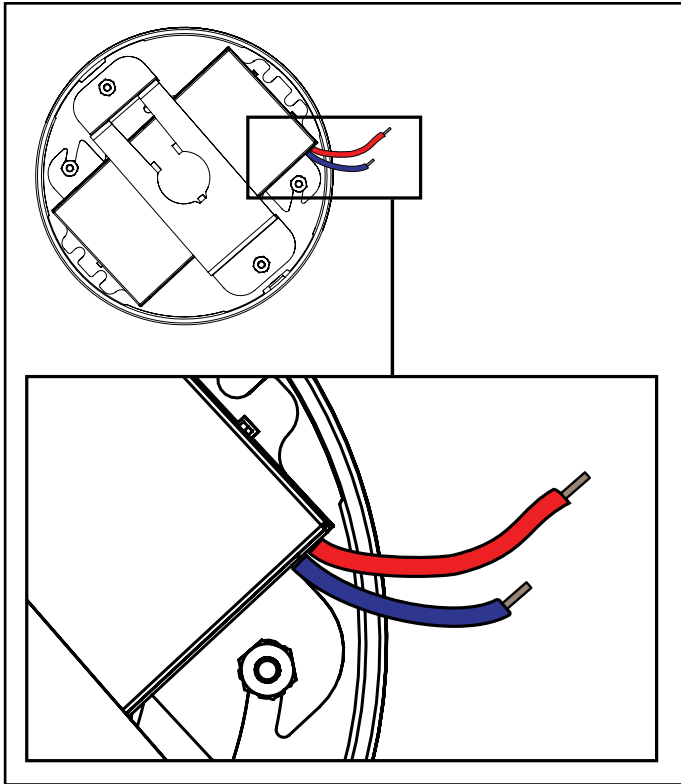

Figure 26
9. Route the Low voltage wire routing (LED wires) from the **Driver Enclosure (D)**. (Figure 26)